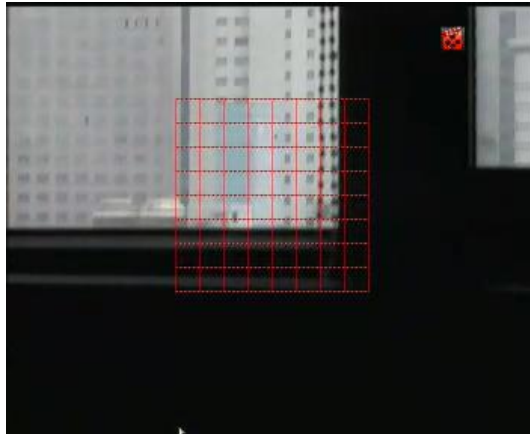

Figure 2. Motion Detection Area
- 5. The Motion Detection area, shown in Figure 2, allows you to mask out areas where you would like motion to be detected in. The maximum area is the whole screen. Mask the Motion Detection area.**